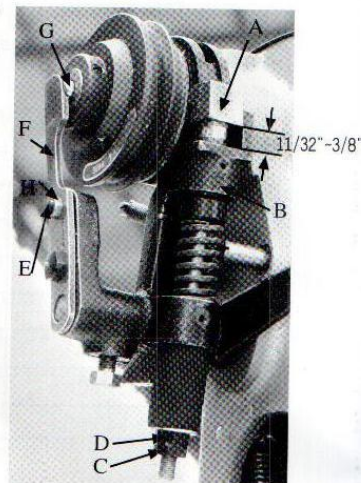

Fig. 1
This position is that which is shown in Fig.1 with the stop motion disc and pawl against the plunger (A).
With machine in stop position, stop motion plunger (A, Fig. 1) should be set so that there is $11/32$ to $3/8$ inch between the bottom of plunger and plunger lever bracket (B).